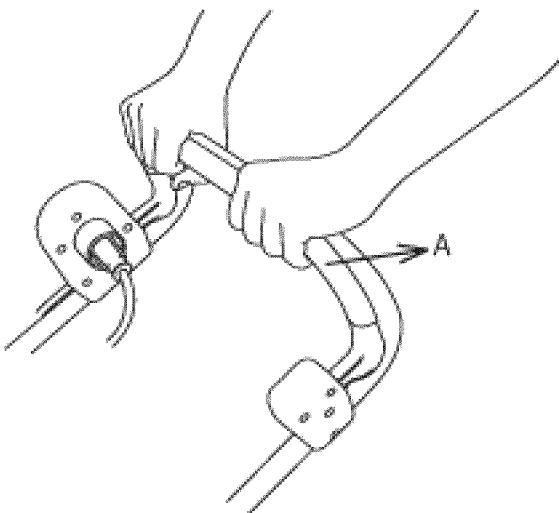

**Figure 20**
1. To power on, first press the switch button found alongside the switch housing (Fig. 20).